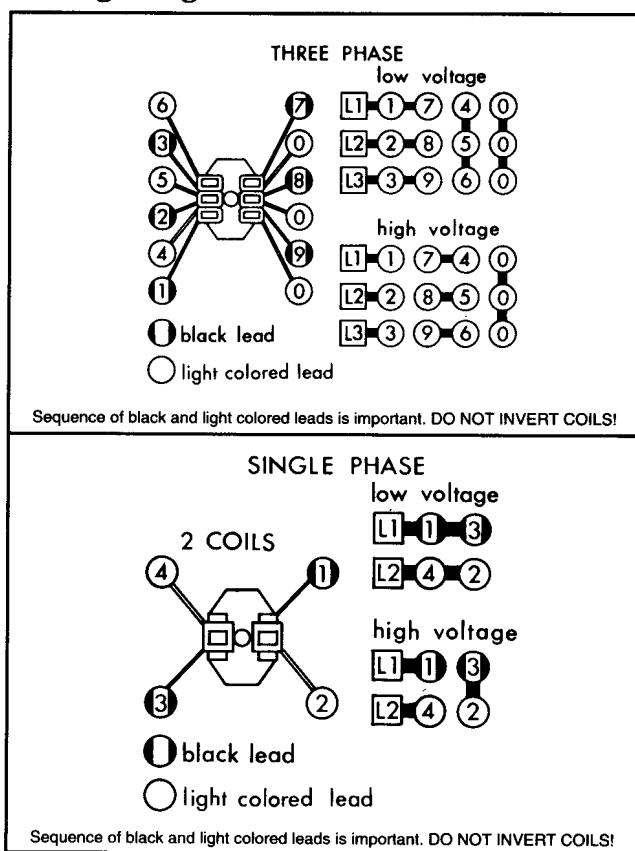

Figure 4
3. Connect coil leads as outlined under "Connection of Coil Leads" and Fig. 4.
4. Replace cover (23) and fasten with machine screws (24) and washers (32). Tighten with 5 lbs. ft. torque.
(Refer to Fig. 4)
When installing coils, it is very important to follow EXACTLY the sequence of black and light colored leads as shown in wiring diagram (Fig. 4). The brake will not operate properly unless coils are all in the correct position.